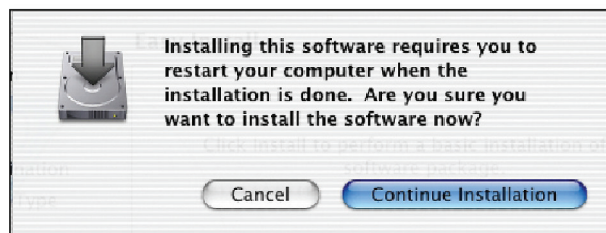

Figure 3-11. Continue Installation screen.
7. Click "Continue Installation." See Figure 3-11.